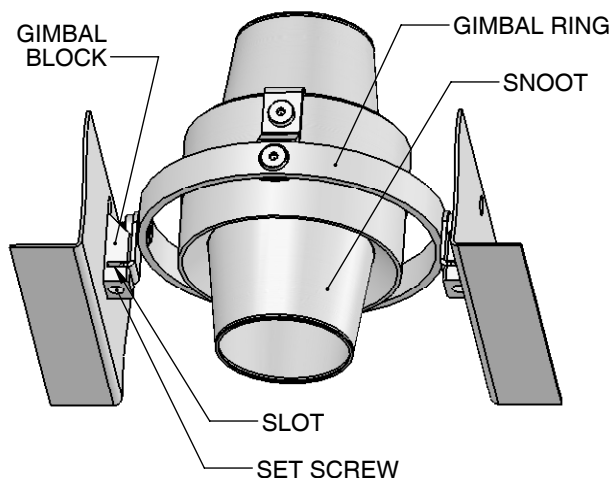

Figure 10
18. Reinsert the lamp ring assembly by turning it *counter-clockwise* into the SLOTS on the GIMBAL BLOCKS. Re-tighten the two (2) SET SCREWS in the GIMBAL BLOCKS. The lamp ring assy should now be oriented in the "up position". See Fig. 10.